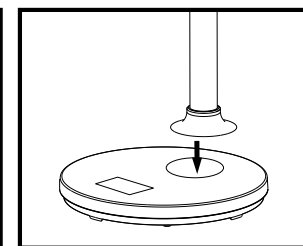

Figure 2
2. First, take out the plastic nut under the middle column, then place the middle column into the hole of the base and press it into position (Figure 2). Finally, lock the middle column plastic nut clockwise.